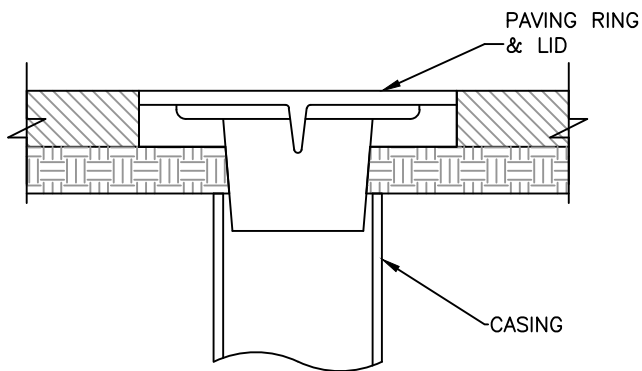

FIG. NO. 3
6. PRESS PAVING RING DOWN TO LEVEL WITH TOP OF A.C., INSTALL LID INSIDE PAVING RING AND BRUSH OFF EXCESS PAVING MATERIAL ON TOP OF PAVING RING. (FIG. NO. 3)